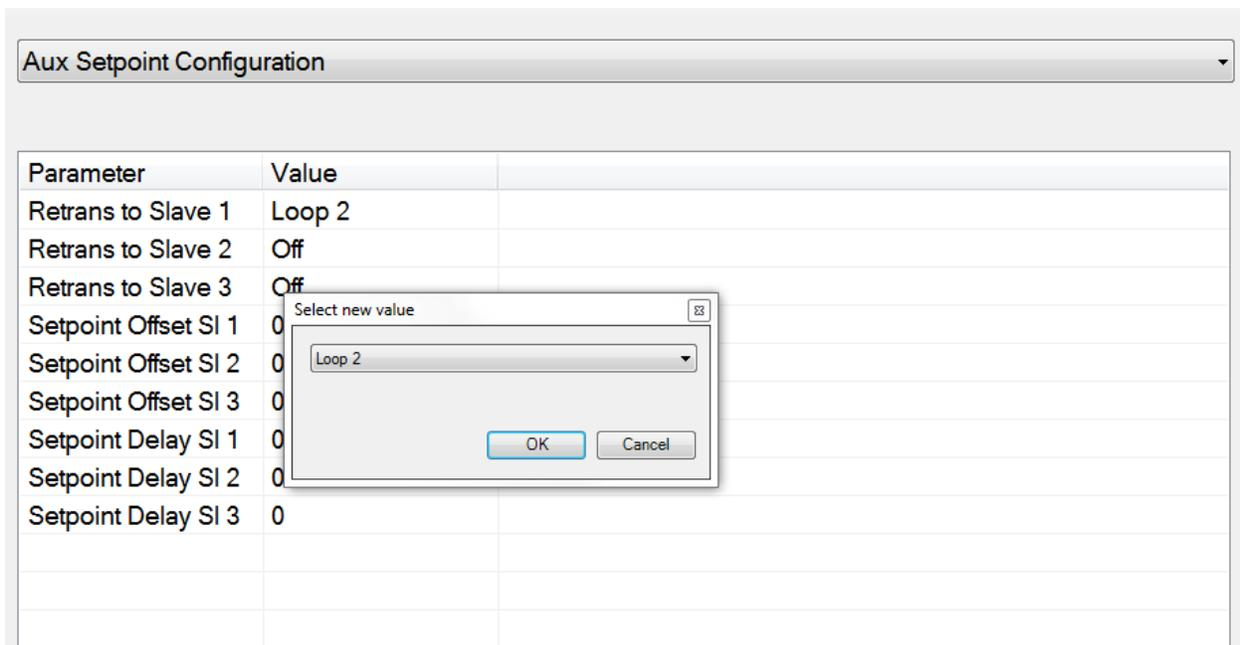

Figure 3 – Configurator in Aux Setpoint Configuration choosing process variable to retransmit
- o. Click on the dropdown box, choose the appropriate loop to retransmit the setpoint to the Series 8L device and click “OK.” (See Figure 3)